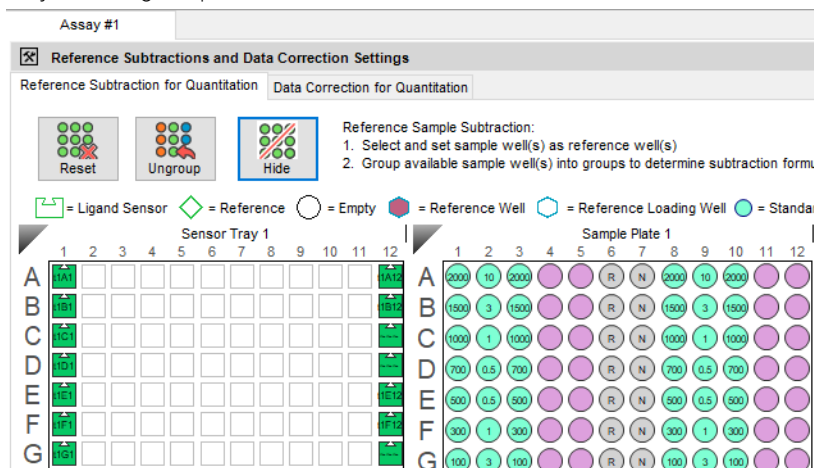

Figure 9-6: Biosensor Tray Displays After Show Selected
Click **Show** to display both the biosensor tray and the reagent plate (Figure 9-6). The default view shows only the reagent plate.
- Biosensors are identified by their tray number and well number. For example t1A1 is the biosensor in well A1 on tray 1, t2H1 is the biosensor in well H1 on tray 2 (Figure 9-6).